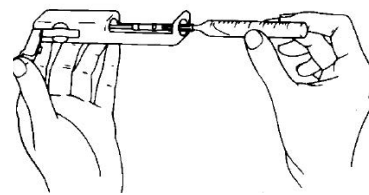

Figure 4
4. Lift the control bar and insert the ampoule assembly into the body of the Titrettor device (Figure 4).